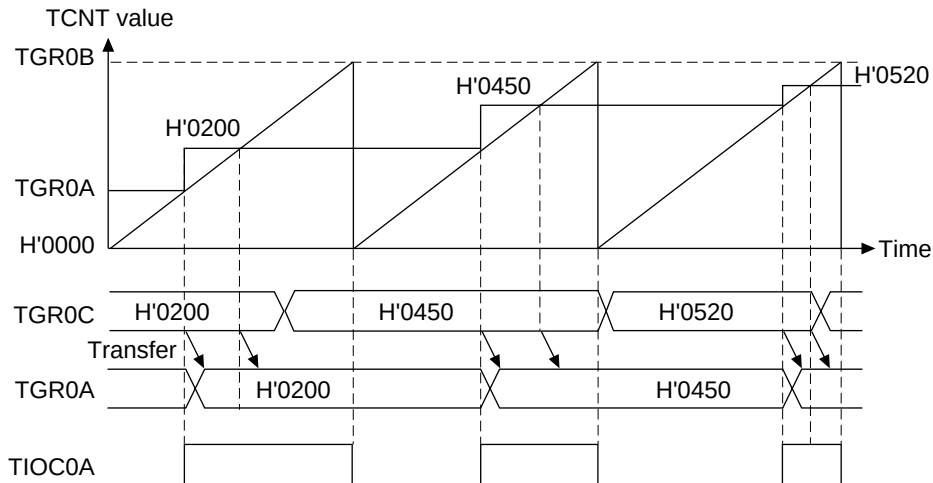

**Figure 12.20 Buffer Operation Example (Output Compare Register)**
**Buffer Operation Examples—when TGR Is an Output Compare Register:** Figure 12.20 shows an example of channel 0 set to PWM mode 1, and the TGRA and TGRC registers set for buffer operation.